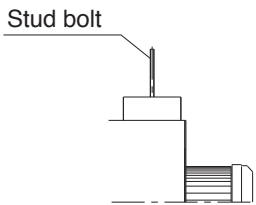

Fig.7
- b Place the adapter over the reducer's original position. The stud bolt will protrude from the Mistresa at this time, so pass the bolt through the adapter's center hole (on models CRH-100 and CRH-15, the existing stud bolts must be replaced by the applicable long bolts shown in Table 1) (see Fig.7).